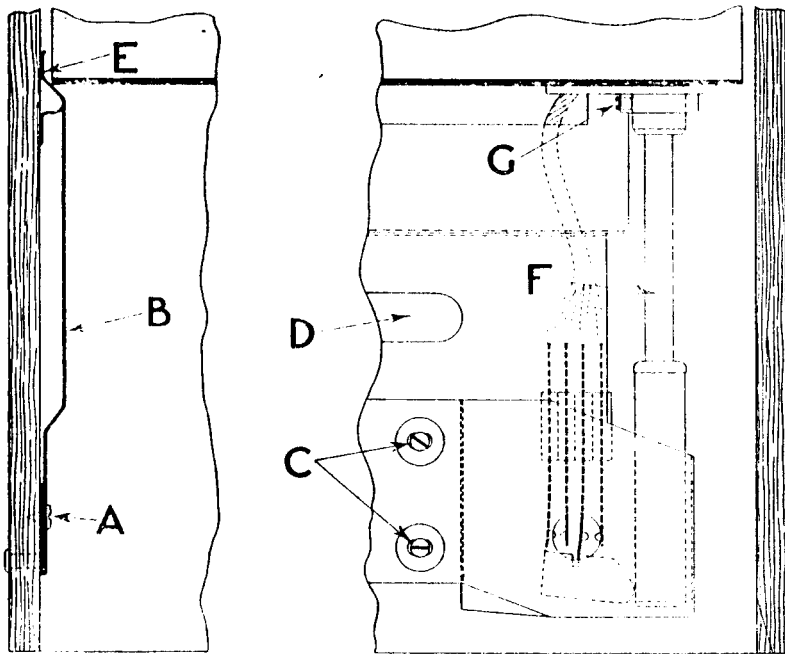

FIG. 3.
3. Remove two self tapping screws "A", Fig. 3 and lift out metal wedge plate "B".
4. Remove two self tapping screws "C" holding switch cover plate to cabinet, Fig. 3.
8. Replace chassis in cabinet with speaker facing toward grille and push chassis all the way up until it stops against the brackets provided for locating the chassis. Replace two self tapping screws "C" and tighten. Then insert wedge "B" on opposite side by inserting tongue between cabinet and back of chassis "E" and push down as far as it will go, this will push chassis and speaker tight against front of cabinet and hold chassis firmly into position. Then replace two self tapping screws, "A", Fig. 3, and tighten.